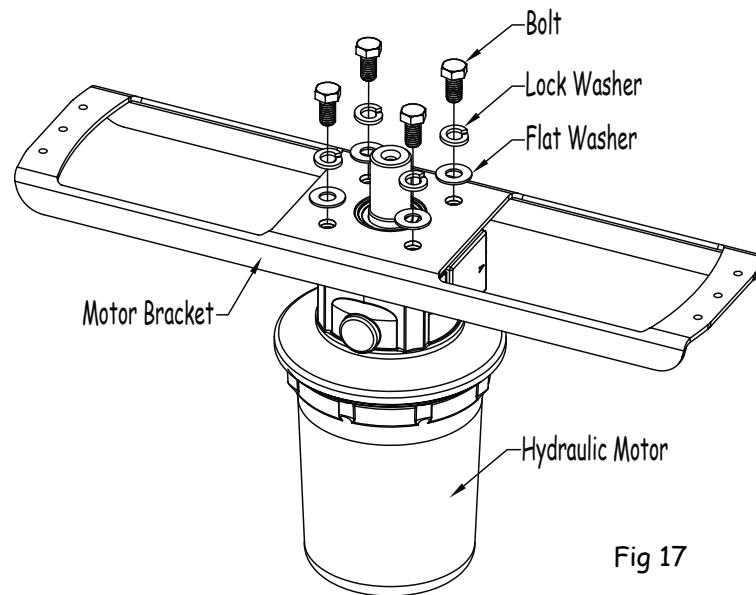

Fig 17
17. To remove the hydraulic motor from the motor bracket, use an adjustable wrench to remove the four hex head bolts, lock washers, and flat washers that secures the motor to the bracket. Mount the new motor in the same orientation on the motor bracket using the new stainless steel bolts and washers. Place Teflon paste on all four motor bolt threads before inserting into the threaded holes in the motor. Also, place Teflon paste on both sides of the motor bracket around the mounting holes and coat the mating surfaces of the washers. Sufficient Teflon paste must be applied so that it will ooze from all gaps around the bolts (Fig 17). **Follow steps 1-16 (in reverse order) to reassemble the motor bracket assembly and front base. If replacing the propellers, proceed to steps 18 – 25.**